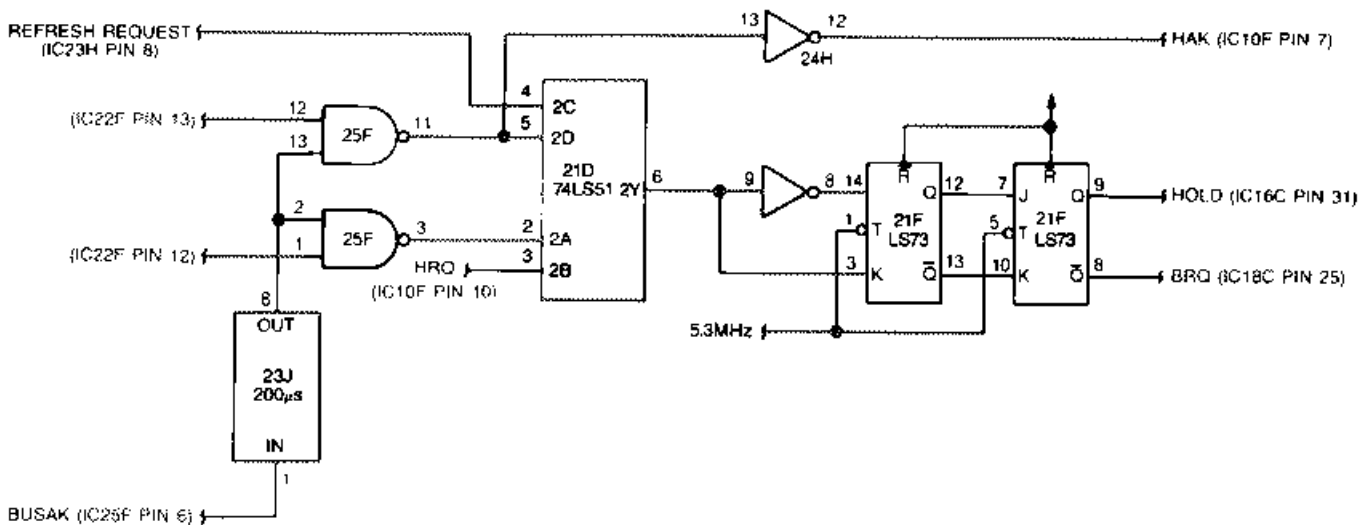

FIGURE 2-28. CPU BUS REQUEST CIRCUIT.
2.3.1.8 CPU Bus Request Circuit (Figures 2-28 and 2-29)